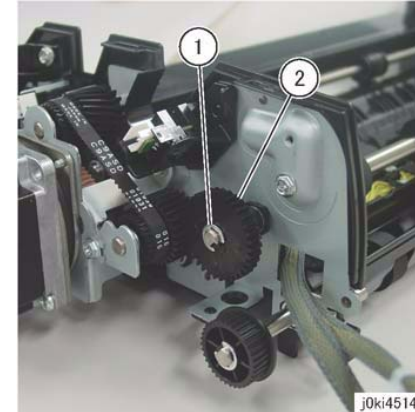

Figure 4 Rear Gear Removal
13. Remove the gear at the rear. (Figure 4)